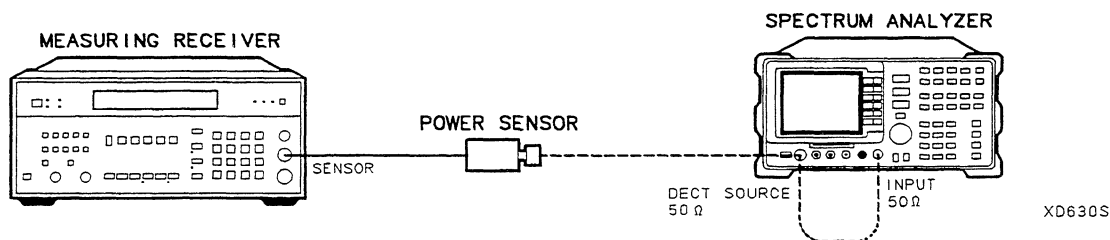

Figure 9-3. DECT Source and Tracking Generator Level Flatness Test Setup
1. Connect the 23 cm BNC cable between the DECT SOURCE 50 Ω and INPUT 50 Ω connectors on the spectrum analyzer, using the N(m) to BNC(f) adapters. Refer to Figure 9-3.